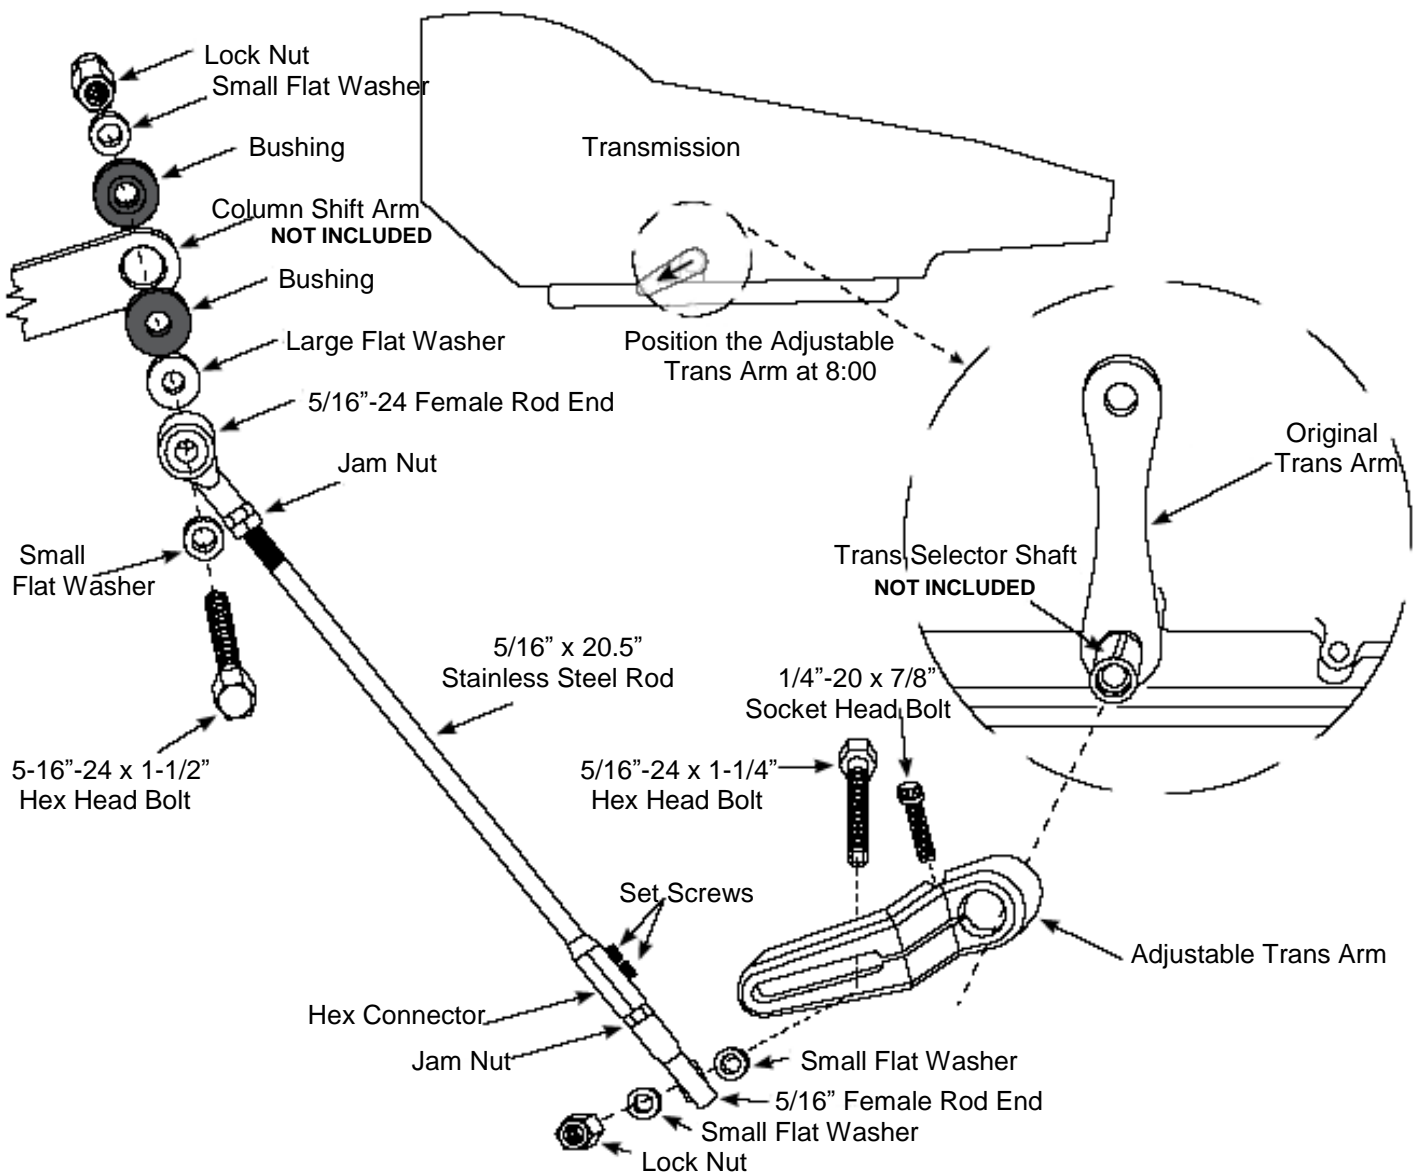

Figure 4
NOTE: Some aftermarket steering columns may require that you drill out the column shift arm to fit the bushings. The new hole dimension should be 0.625" (5/8"). Install a small flat washer onto the 5/16"-24 x 1-1/2" hex head bolt. Then, slide the bolt through the 5/16"-24 female rod end. Next, install the large diameter flat washer onto the bolt, and one bushing facing the proper direction. Insert the bolt through the column shift arm, and install the other bushing and small flat washer. Secure it all using the 5/16"-24 lock nut as shown in Fig. 4.
Step 7: Slide the hex connector with the second 5/16"-24 female rod end onto the end of the stainless steel rod. Attach the rod end to the adjustable trans arm with the 5/16"-24 x 1-1/4" hex head bolt, two flat washers, and lock nut as shown in Fig. 4. Tighten the set screws in the hex connector using a 1/8" Allen wrench, but only enough to mark the stainless steel rod and hold the hex connector in place during the adjustment procedure.